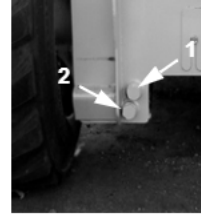

Figure 42 Check and Drain Plugs
2. Remove the check plug (Figure 42) from each chaincase housing. The oil level should be at the plug level or no more than 1/4 in. (6 mm) below.
2. Remove the drain plug on each chaincase (Figure 42) and drain the oil into a suitable container.